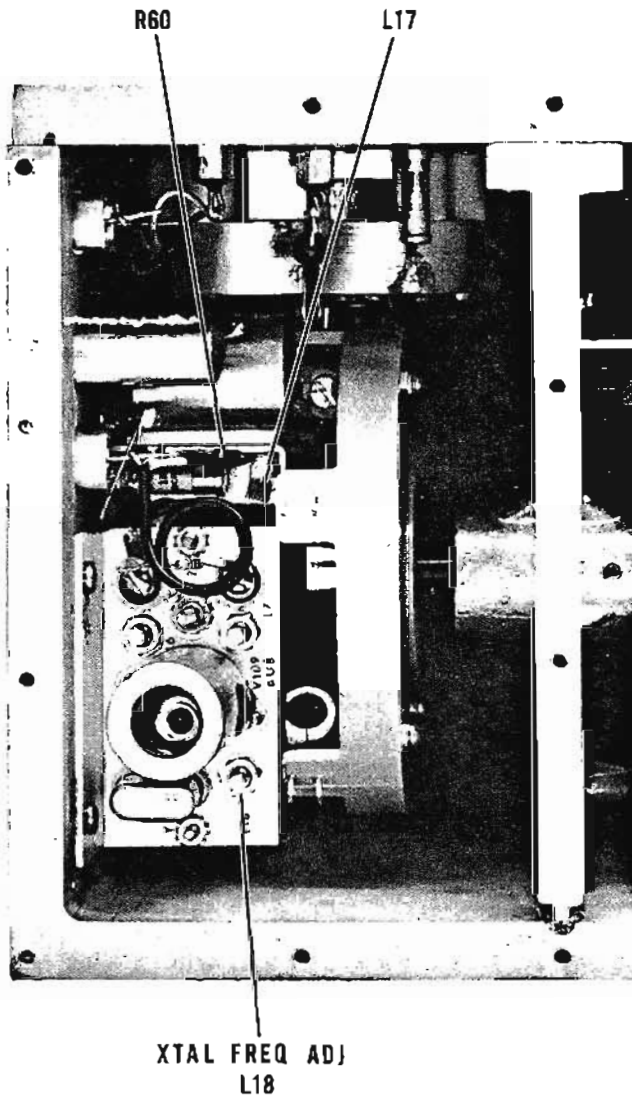

Figure 5-19. Location of Frequency-Response and Crystal-Calibrator Adjustments
d. Adjust L18 (Figure 5-19) in clockwise direction. Two separate beat frequencies should be heard in headset within one full turn of L18. Adjust L18 to audible null between the two beat notes.